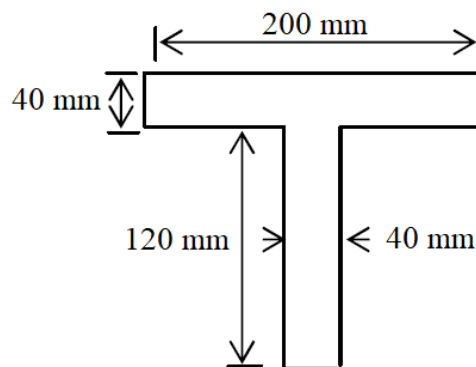

Figure B2 (a) / Rajah B2 (a)
- (a) A T- section of beam given as shown in **Figure B2 (a)**. Based on the basic geometrical shape, determine the centroid of T-Section.